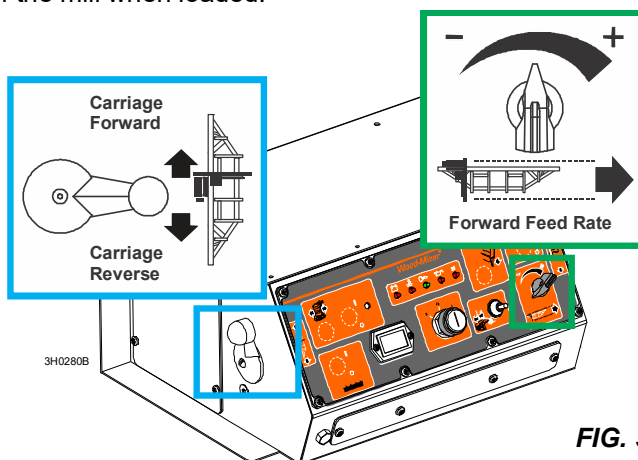

FIG. 3-3
8. Use the carriage forward/reverse switch (left side of control box) to move the cutting head toward the front (hitch end) of the mill. **See Fig. 3-3.**
8. Use the feed control switch (left side of control box) to move the cutting head toward the front end of the mill. **See Fig. 3-3.**